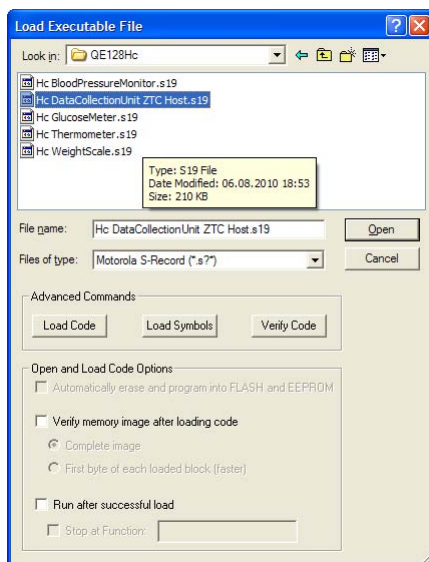

Figure 7. Open *.s19 file
7. As shown in Figure 7, ensure that the Hc DataCollectionUnit ZTC Host.s19 is highlighted and click on the Open button.